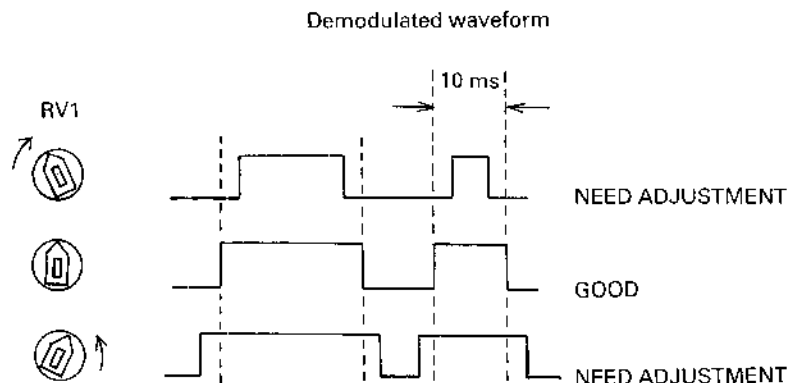

Fig. 18 State of RV1 and demodulated waveform
- 5) The demodulated waveform is a rectangular wave with the width of 10 msec. Adjust RV1 so that the duration of the shortest waveform may be 10 msec. (See Fig. 18.)